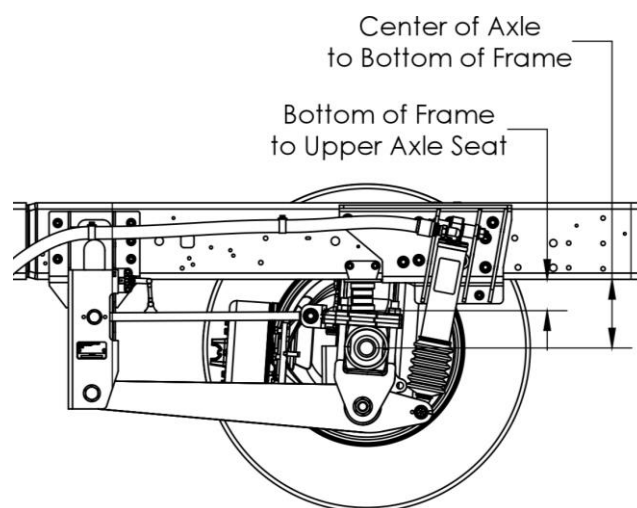
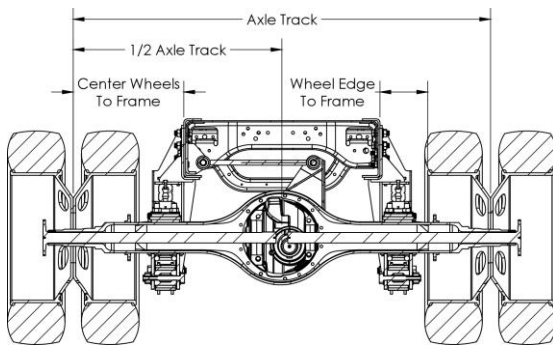

Figure 25. Design Ride Height
Figure 26. Checking Axle Center.
- Jack each side of the axle or adjust frame height until approximately design ride height position. See Figure 25.
- Torque the four (4) 7/8" Control Arm mounting bolts to **491-600 ft-lbs.**
- Torque the two (2) 1" Control Arm mounting bolts to **600 ft-lbs.**
- Torque the two (2) 1-1/8" Control Arm mounting bolts to **800-850 ft-lbs.**
3. If axle is not centered, adjust as necessary. Refer to Figure 26 for examples of axle centering, and Figure 25 for correct ride height measurements.